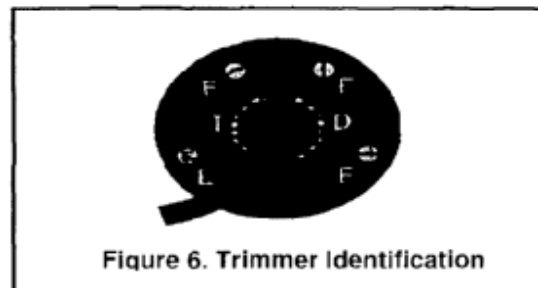

Figure 6. Trimmer Identification
31. Select RIGHT MAIN tank on Fuel Quantity Selector switch at refueling panel (Figure 6).
Refer to Figure 6 for location and identification of trimmers.